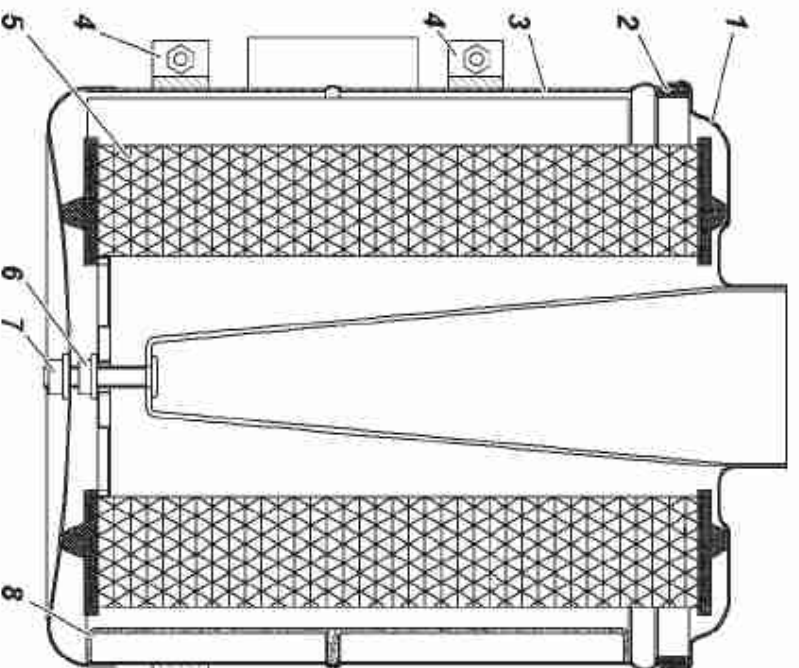

Fig. 9.9. The air filter.
**Air filter.** The vehicle has an air filter (Fig. 9.9) with a replaceable cardboard filtering cartridge.
Replace the filtering cartridge 5 (Fig. 9.9) every 30,000 km or in case of the engine power decrease.